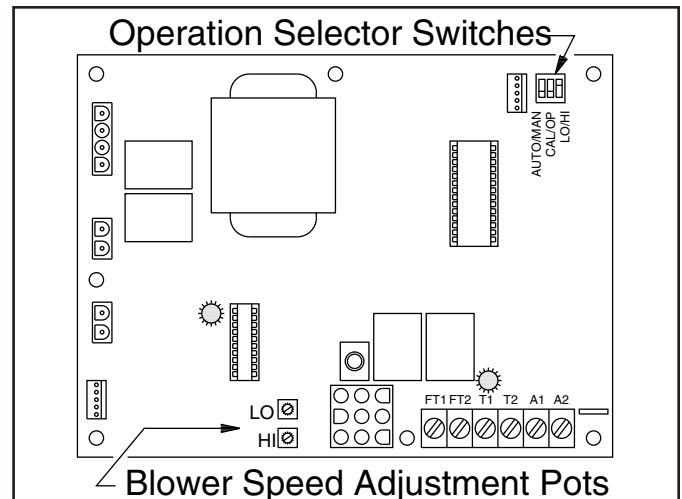

Figure 19: Electronic Boiler Control Board
- Calibration also requires using boiler Operation Selector Switches and Blower Speed Adjustment Pots, located on the Electronic Boiler Control Board (see Figure 19).